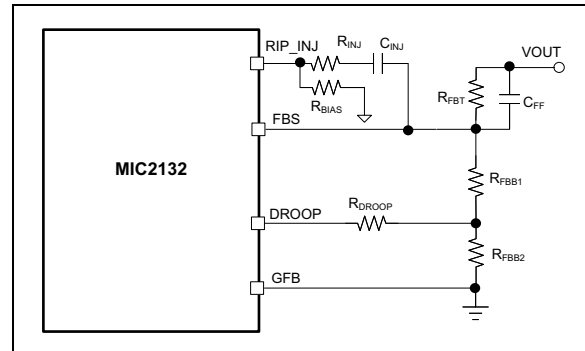

FIGURE 4-16: AVP Implementation for 5V Output with 2% AVP Range for DROOP Pin Range 0V to 600 mV.
The part of the schematic to implement the AVP for a 5V output is shown in Figure 4-16. The underlying assumption is that the current sense is done using sense resistors independent of temperature.
Step 3: The R_{FBB1} is slightly adjusted to get $V_{OUT} \times (1 + \epsilon)$ for $I_{OUT} = 0$ A. The result is in Figure 4-16.